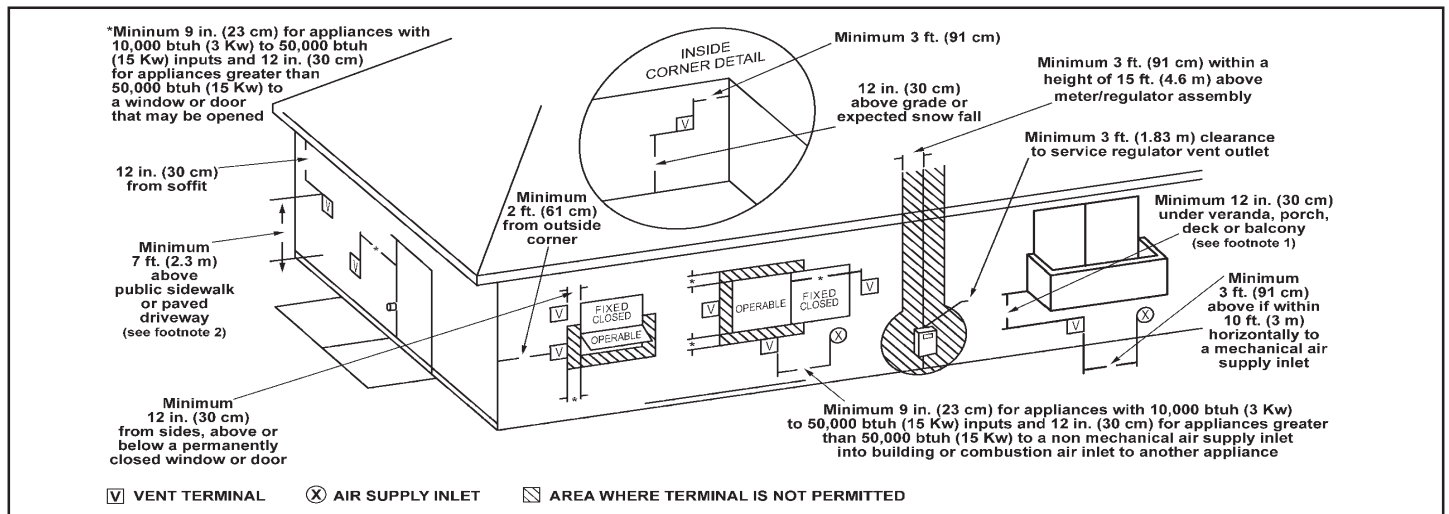

FIGURE 8 - DIRECT VENT TERMINAL CLEARANCES - US INSTALLATION
- The Power Direct Vent outlet terminal shall terminate at least 36" (91 cm) above any forced air inlet located within 10 feet. See Figure 8.
- The Power Direct Vent outlet terminal shall terminate at least 36" (91 cm) below, 36" (91 cm) horizontally from or 18" (46 cm) above any door, window or gravity air inlet into the building. See Figure 8.